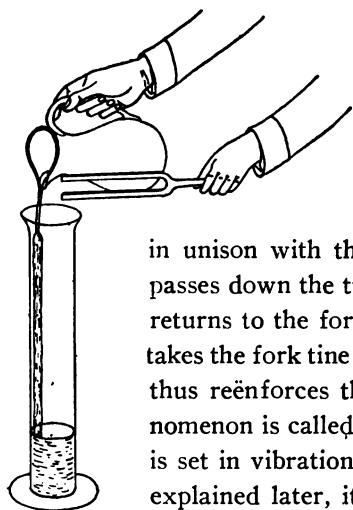

FIG. 149
**181. Vibrating Columns of Air—Resonance.** If such a tuning fork as above described is held over a jar (Fig. 149)